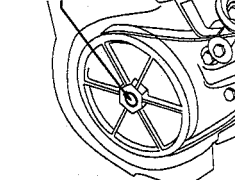

FIGURE 9C
4. Remove the belt cover and lightly apply oil to the pivot point for the idler pulley arm. **MAKE SURE THAT YOU DO NOT SPILL OIL ON THE BELT OR THE PULLEYS.** See figure 9C.